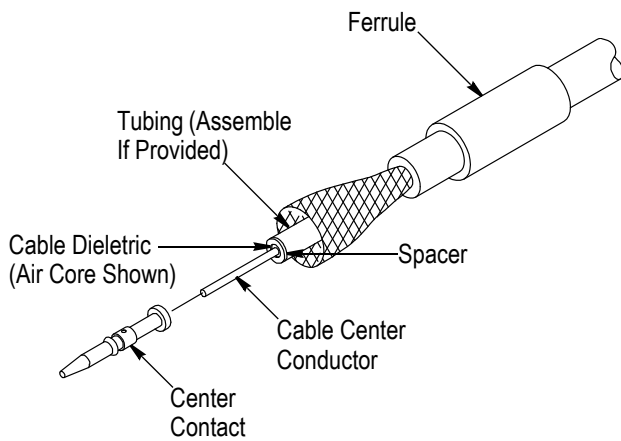

Figure 2
1. For cable with an air core dielectric, assemble a spacer over the center conductor and bottom it against the dielectric. This must be assembled before installing the center contact. If tubing is provided with the connector, slide it over the dielectric prior to assembly. Refer to Figure 2.
3. Insert the cable center conductor into the center contact. See Figure 2. The contact must be positioned against the cable dielectric or spacer, if used.